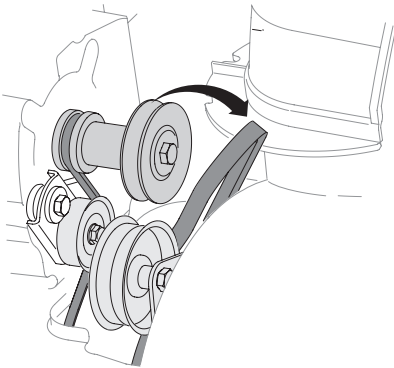

Figure 4-16
- Roll auger belt off engine pulley. See Figure 4-16.